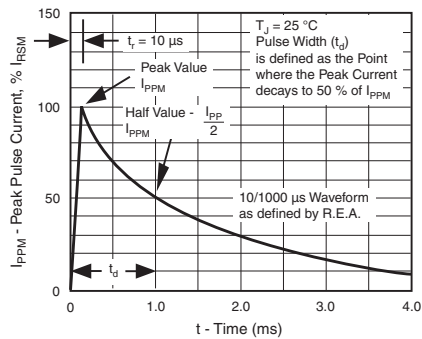
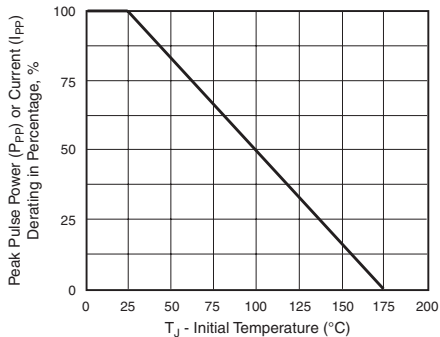

Figure 3. Pulse Waveform
Figure 2. Pulse Derating Curve
- (1) Pulse test:  $t_p \leq 50\text{ ms}$
- (2) Surge current waveform per Fig. 3 and derate per Fig. 2
- (3) For bi-directional types with  $V_{WM}$  of 10 V and less, the  $I_D$  limit is doubled
- (4) For the bi-directional SA5.0CA, the maximum  $V_{BR}$  is 7.25 V
- (5) All terms and symbols are consistent with ANSI/IEEE C62.35